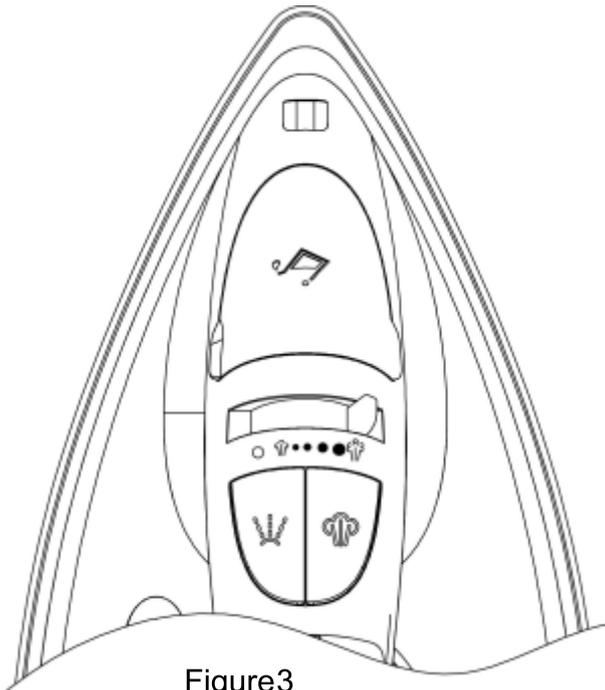
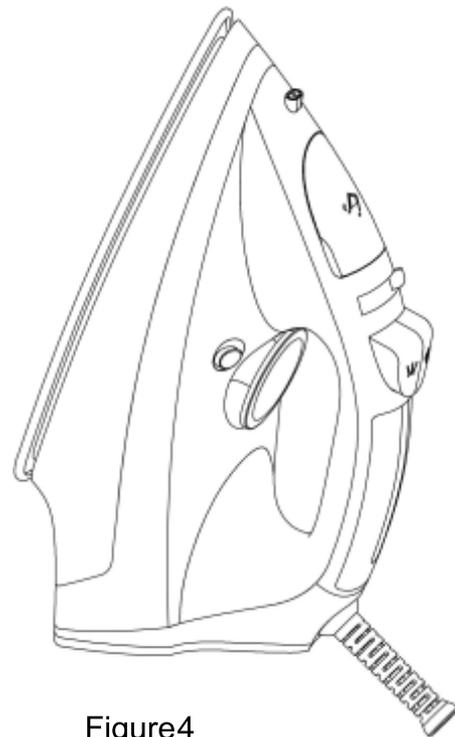

Figure3
Figure4
4. Make sure steam button is on dry position. (See fig 3), then place the iron vertically (See fig 4).
2. Connect into power supply and indicator light will be illuminated, make sure Steam button is in the Dry position, then place iron as fig.4
3. Once the light is off, hold the iron over the sink and turn steam button to SELF CLEAN position (Fig.3) with a little force. Steam and boiling water will come out of the soleplate while impurities and flakes will be flushed out.